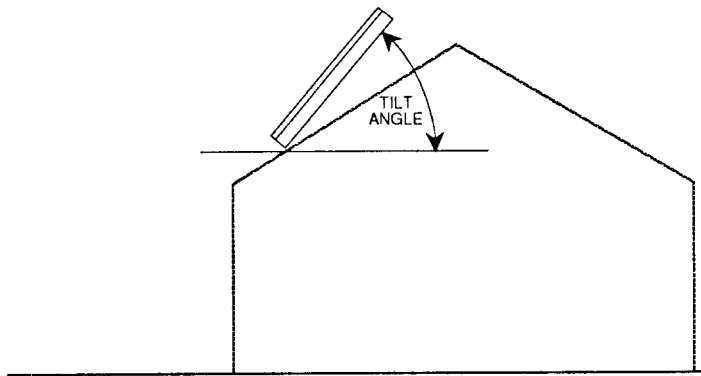

FIGURE 2-40
2.3.5 Module Tilt and Orientation. Permanently mounted modules should be tilted up from the horizontal (Figure 2-40 and Table 2-2). The correct tilt angle varies with the times of year the system is used, and the latitude of the site. The tilt angle is measured from the horizontal, not from a pitched roof or hillside.